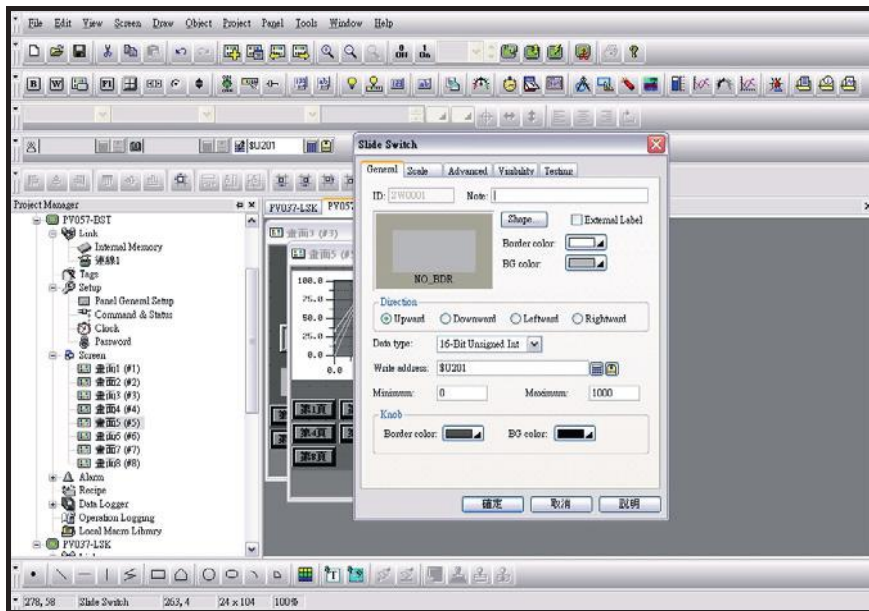

Figure 2-97 New project _ step 6_ Object properties setting dialogue box.
Step 6 : When complete all settings, users can start to design needed screens. Double left click the mouse to get further setting dialogue boxes. To move or adjust any object by moving checks on the edges , see as shown in figure 2-97.